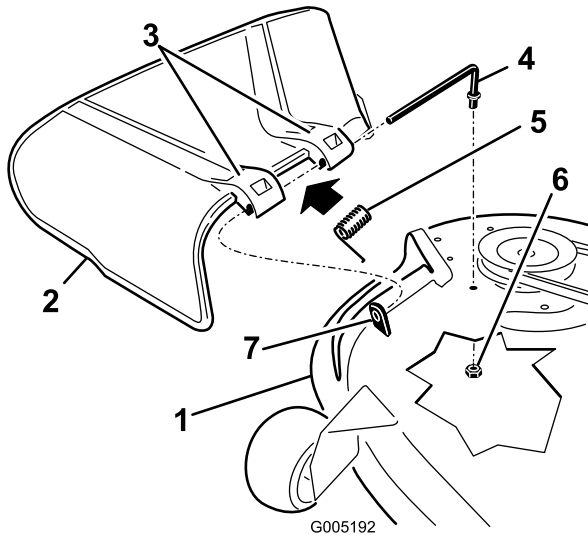

Figure 58
1. Remove the nut (3/8 inch) from the rod under the mower (Figure 58).
2. Slide the rod out of the short standoff, spring, and grass deflector (Figure 58).
4. Replace the grass deflector (Figure 58).
7. Slide rod through the second grass-deflector bracket (Figure 58).
9. Secure the rear end of the rod into the mower with a nut (3/8 inch) as shown in Figure 58.